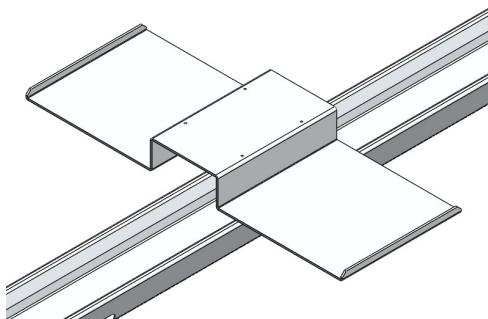

Fig. 21 – Install Tray 'top-down' on Rail
- 2 Install Ballast Trays under PV panels, top-down, onto rails (see example illustration, Figure 21). Refer to the *Shading Diagram*, provided separately, for configuration requirements. Install 4 TEK screws through tray and rail.